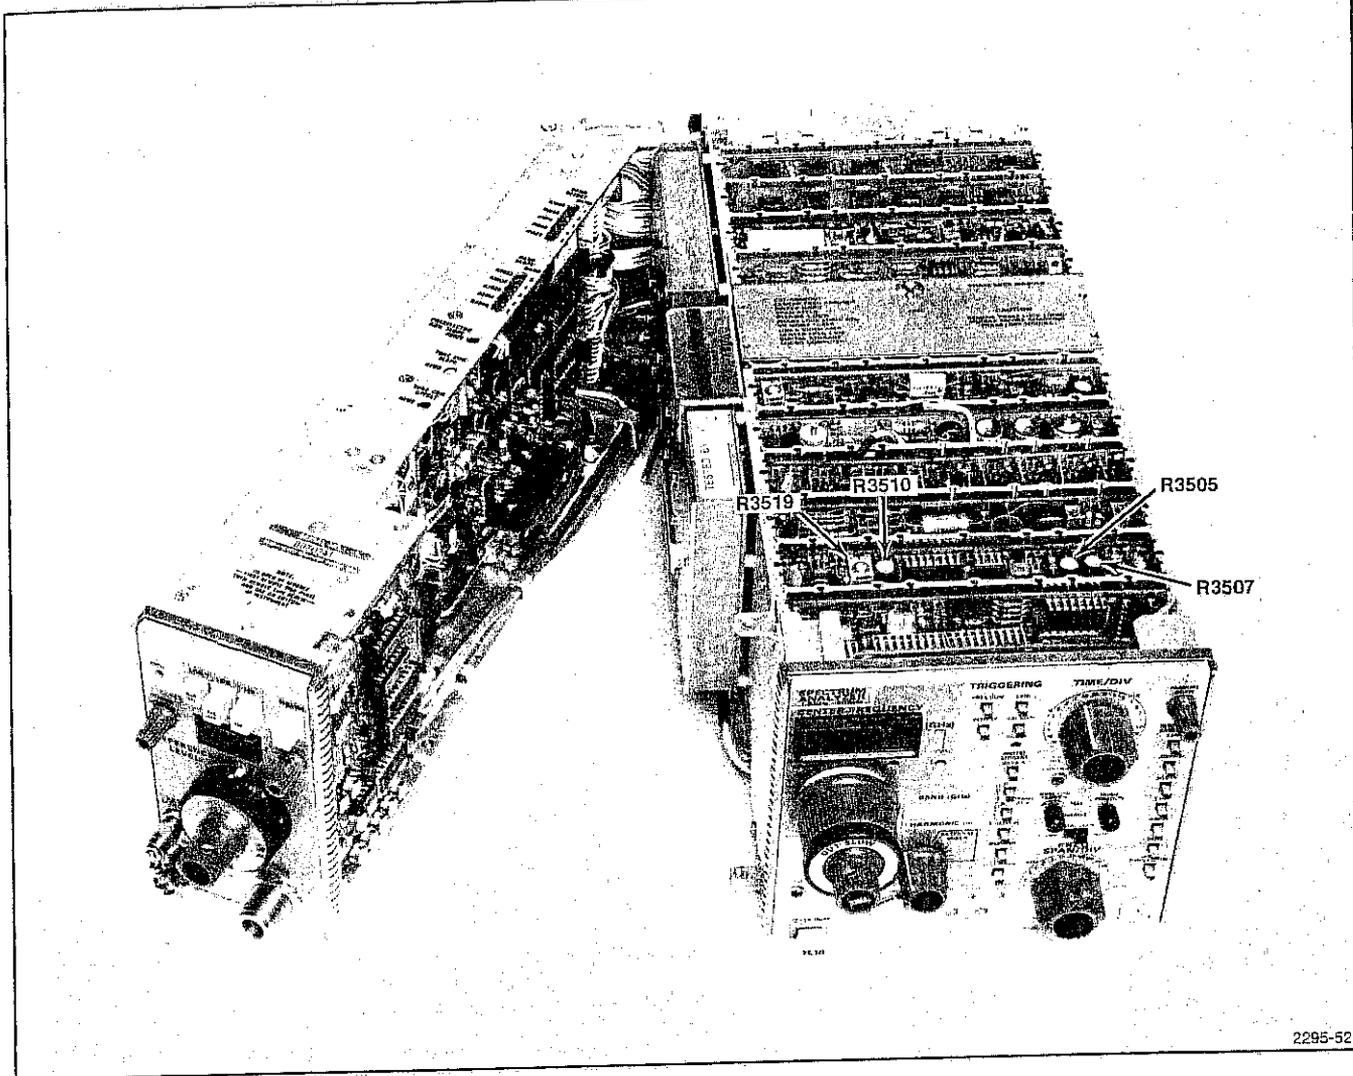

Fig. 4-44. Digital Storage Calibration Adjustments.
b. Tune the 2.5 GHz calibrator signal to center screen so the display covers the 1.5 to 3.5 GHz span. Activate and de-activate DISPLAY A and adjust Horiz Offset R3507 (see Fig. 4-44) until the stored 2.5 GHz signal is at the same horizontal point as the non-stored display.
g. Activate and de-activate DISPLAY A as the Vert Offset is adjusted with R3519, (see Fig. 4-44) until the stored signal amplitude is the same as the non-store amplitude.
i. Activate and de-activate DISPLAY A as the Vert Gain is adjusted with R3510, (see Fig. 4-44) so the stored display amplitude equals the non-store display.